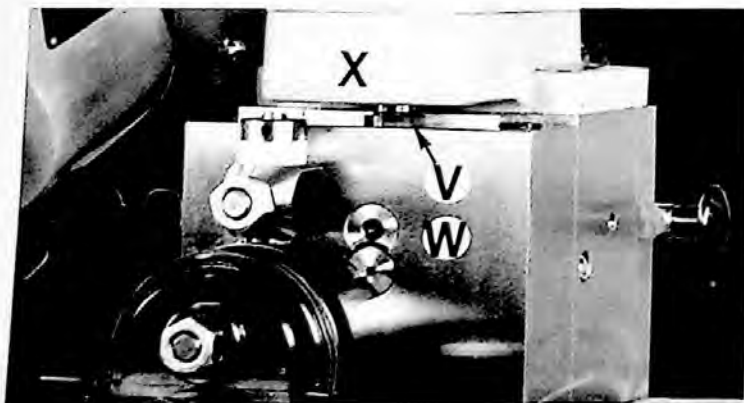

Figure 18 — Piston Rod for Slide Travel
5. Using open end wrench, unscrew piston rod "V", Figure 18, from tool post slide "W" and remove cylinder housing "X".
5. Replace cylinder housing "X", Figure 18, and using open end wrench, thread piston rod "V", Figure 18, into tool post slide "W".
3. Using open end wrench, unscrew piston rod "V", Figure 18, from tool post slide "W" and remove cylinder housing assembly "X".